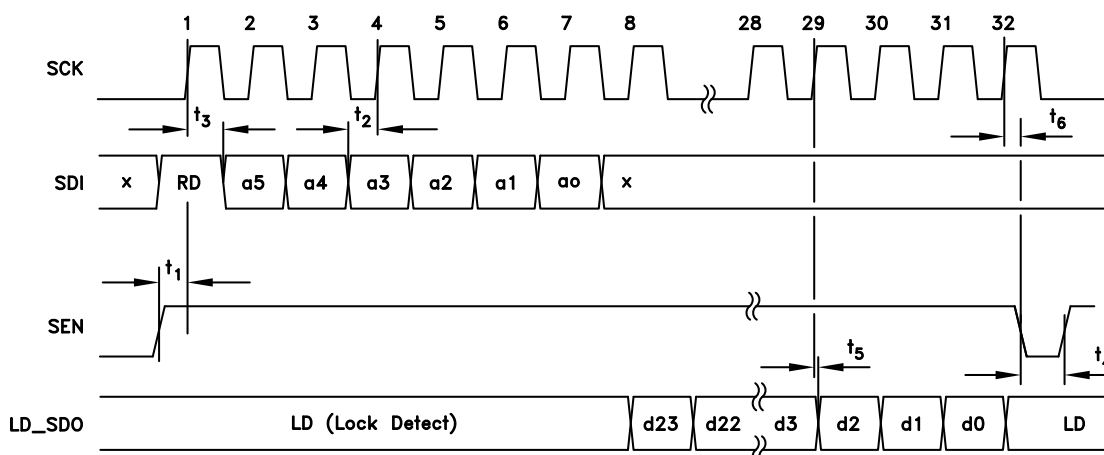

Figure 42. HMC Mode Serial Port Timing Diagram - READ
A typical HMC Mode READ cycle is shown in Figure 42.
- The Master (host) asserts both SEN (Serial Port Enable) and SDI to indicate a READ cycle, followed by a rising edge SCK. Note: The Lock Detect (LD) function is usually multiplexed onto the LD_SDO pin. It is suggested that LD only be considered valid when SEN is low. In fact LD will not toggle until the first active data bit toggles on LD_SDO, and will be restored immediately after the trailing edge of the LSB of serial data out as shown in Figure 42.
- The slave (synthesizer) reads SDI on the 1st rising edge of SCK after SEN. SDI high initiates the READ cycle (RD)